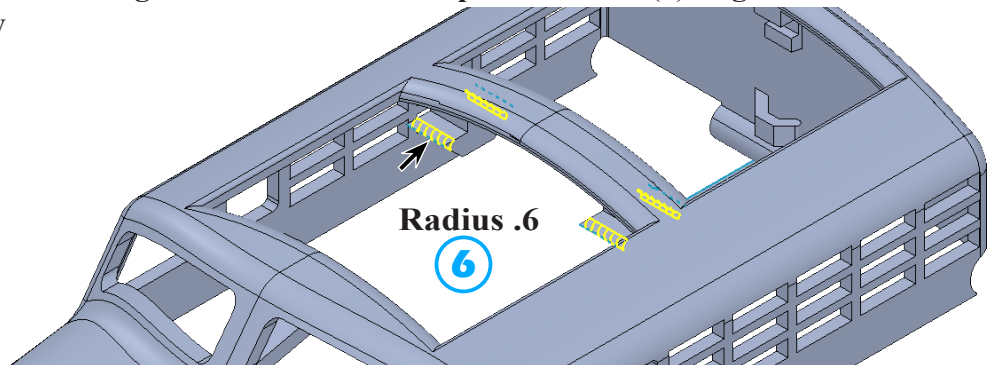

Fig. 149
- ⑥ **Radius**  .6
click horizontal edges of both center solar panel mounts (4), Fig. 149